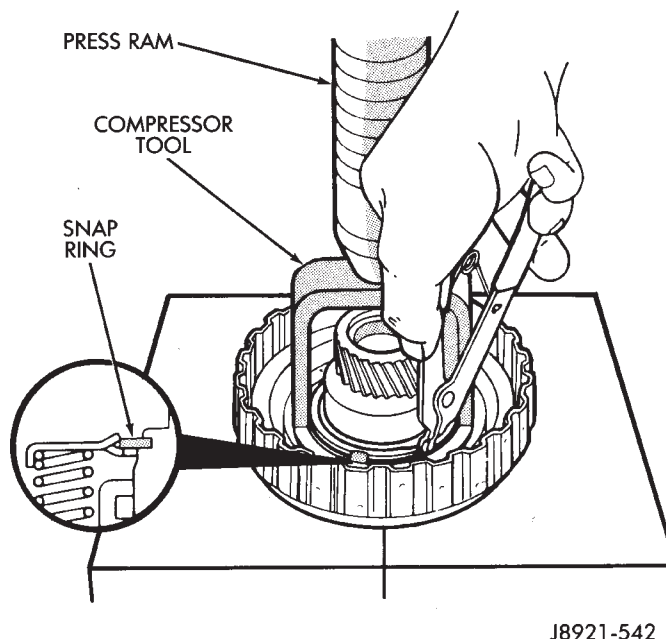

Fig. 24 Installing Clutch Piston Snap Ring
(11) Install piston snap ring. Compress piston return springs with Tool 7538 and shop press (Fig. 24).